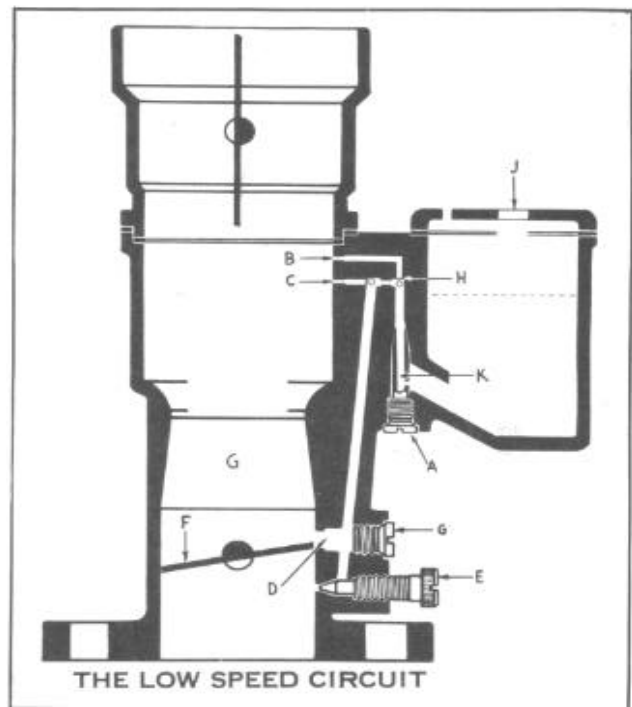

Figure 14--Low Speed Circuit
The idle and low speed circuit consists of the low speed jet, (A) Figure 14, by pass (B), air bleed (C), port opening (D), idle adjusting screw (E), throttle valve (F), carburetor throat (G), anti percolator valve and economizer (H).